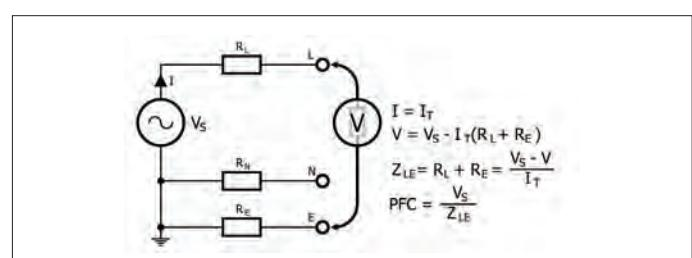

Figure 4: Calculating the prospective earth fault impedance Z_S (or Z_E) or the Earth fault current P(E)FC.
PSC testers can also measure the Earth fault loop impedance Z_S or Z_E or the prospective fault current PFC (also known as PEFC). This corresponds to the impedance of the circuit between the P and the (P)E conductors in the event of a short between the two (**Figure 4**). A low impedance will result in a high fault current, making a protective device trip quickly. It also helps to ensure a small potential difference between the (P)E conductor at the outlet and the earth you are standing on.